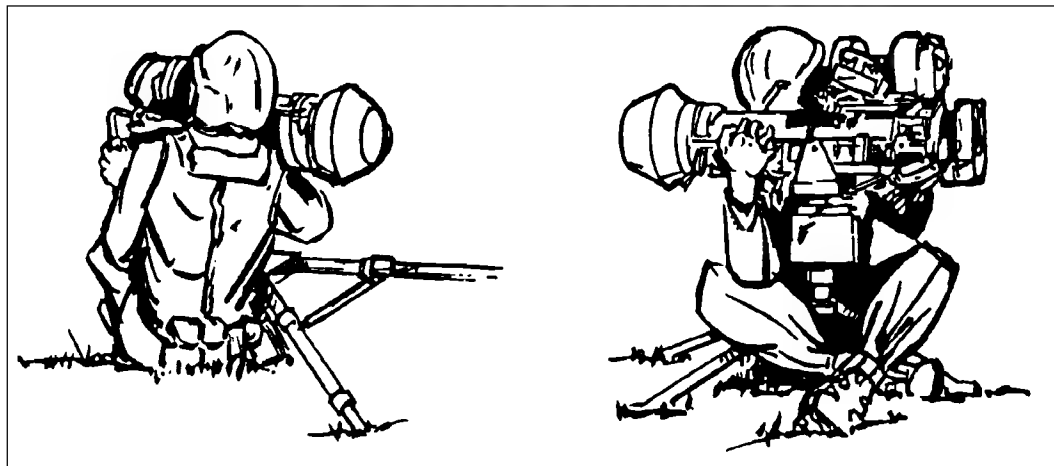

Figure E-5. M3 position (left) and M122 tripod position (right).
c. The gunner can also fire the Dragon from a dismounted position, using either the M3 or M122 machine gun tripod (Figure E-5, page E-3).